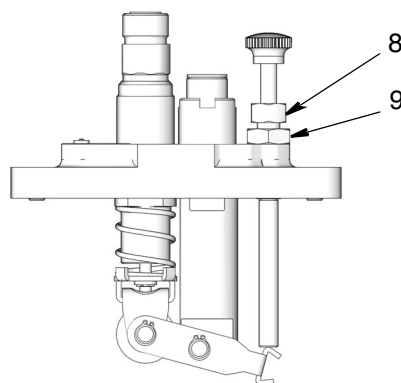

FIG. 9
Pump volume is controlled by an external adjusting screw (8) (FIG. 9). Turning the adjusting screw changes the length of the piston stroke which changes the pump discharge volume.
1. Loosen the adjusting screw locknut (9) (FIG. 9).
2. Turn the adjusting screw (8) (FIG. 9):
3. **For Suction Fed and Gravity Fed models only:** With the lubricator operating, count the drops from the drip tube (4) falling into the sight well (2) for one minute.
5. Once the pump is adjusted to the proper specification, tighten the adjusting screw locknut (9) (FIG. 9).
The number of drops observed falling in the sight well equals the amount of oil discharged by the pump. The pump volume can be adjusted using the adjusting screw (8) (FIG. 9) to change the piston stroke. (See Adjusting the Pump.)